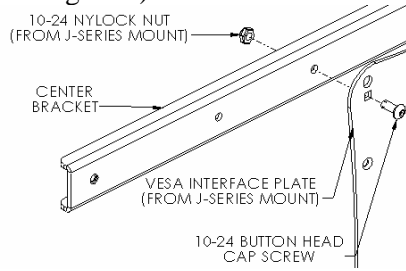
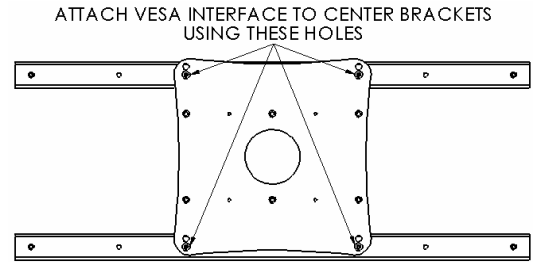

Figure 4
Figure 5
4. **J-Series VESA Interface Installation:** Using the 10-24 button head cap screws along with the 10-24 Nylock nuts (provided with J-Series mount), attach VESA interface from J-Series mount to center brackets (see Figure 4 & Figure 5).